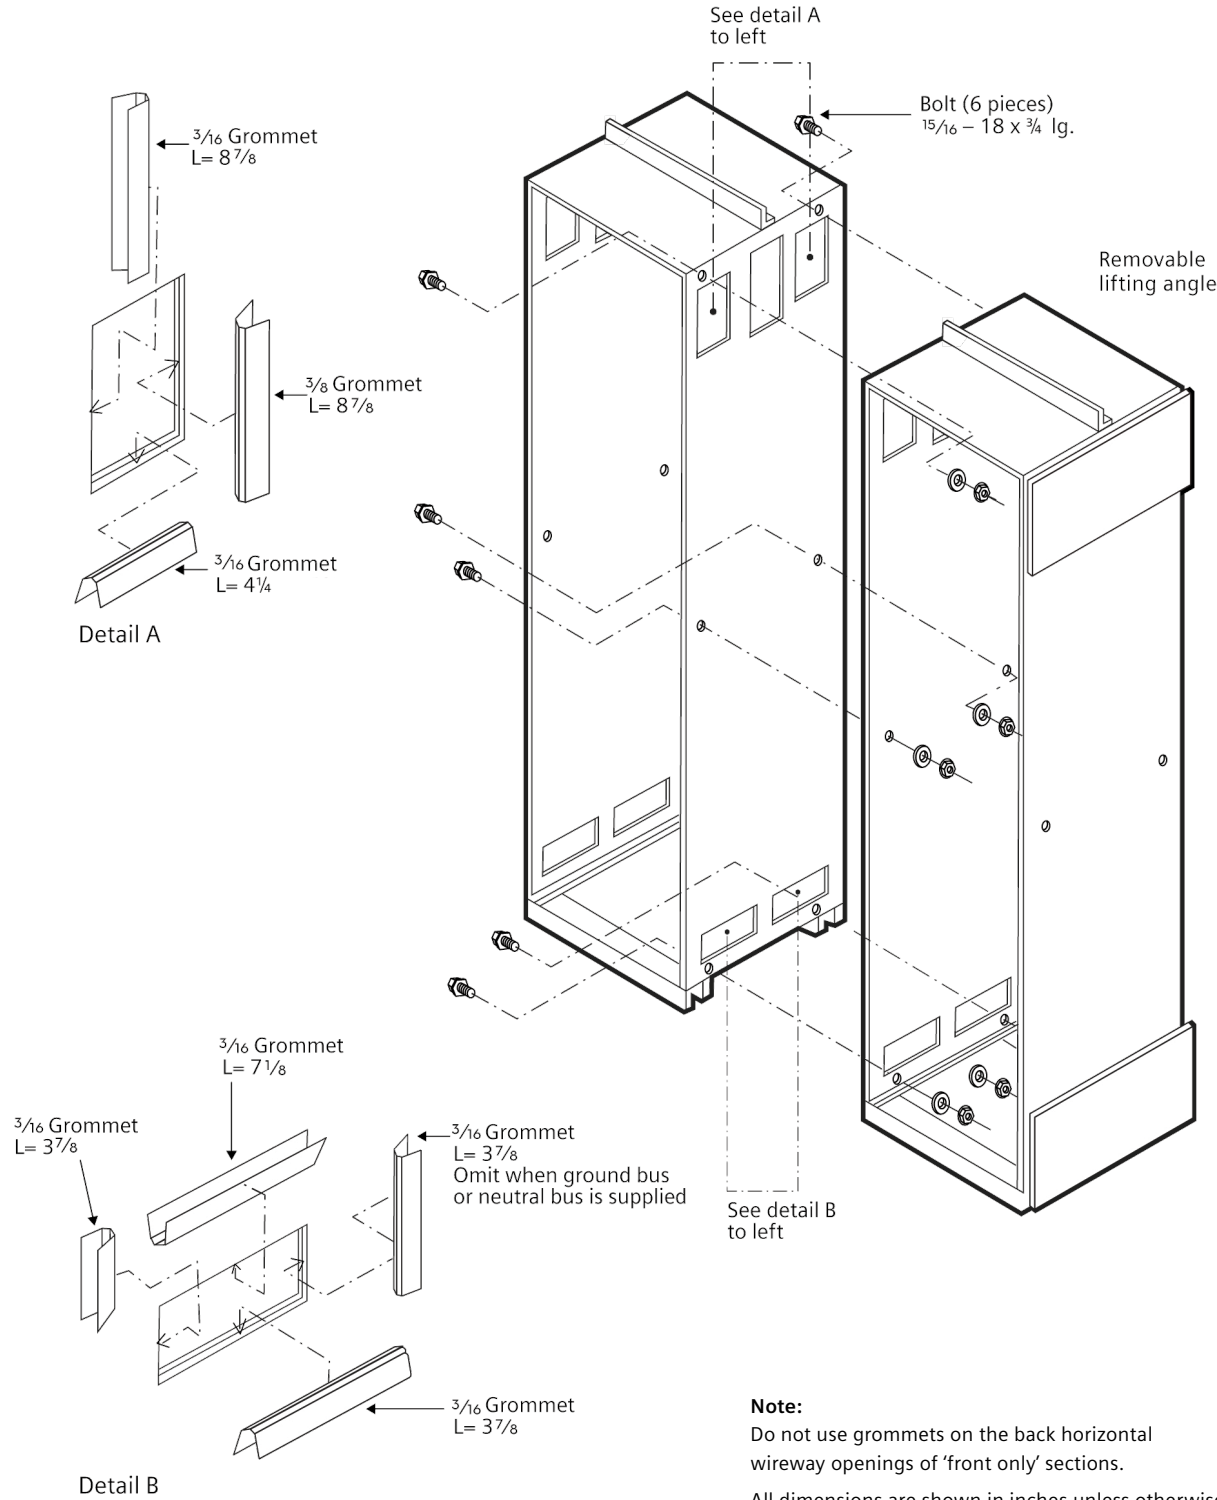

Figure 11
4. Bolt structures together at six points (see Figure 11). If access to the rear of the structures is restricted, the rear center bolt may be omitted.